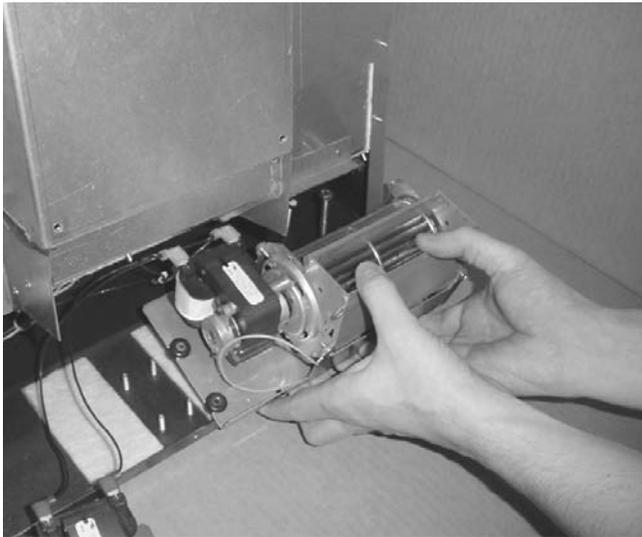
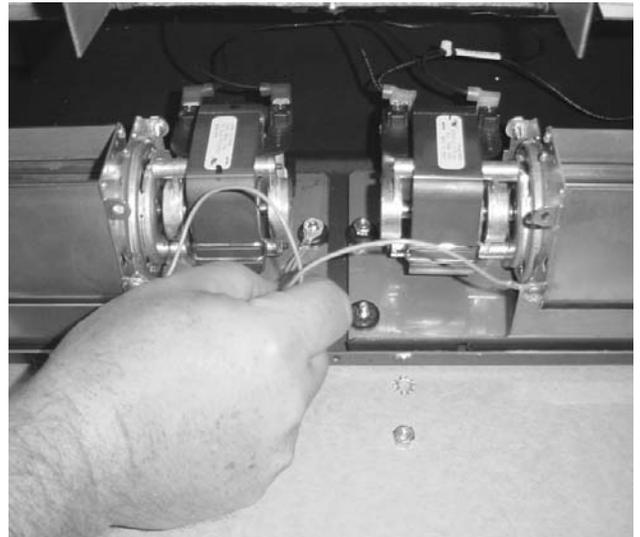

Figure 12
Figure 13
- 7 Make sure the grommets and bushings are properly positioned on the blower assemblies (note: there are four grommets and three bushings on each assembly – the outer back grommet does not require a bushing). Place the blower in place, making sure each grommet and bushing slides over the press studs on the baseplate (see Figure 12). Each blower is secured with a single nut (this keeps the blower from dislodging while positioning the insert). Use the center nut near the front. Secure one blower with the included nut. Place the ground wires over the other post, insert the star washer over the post, and secure using the remaining nut (see Figure 13). Do not over-tighten these nuts.